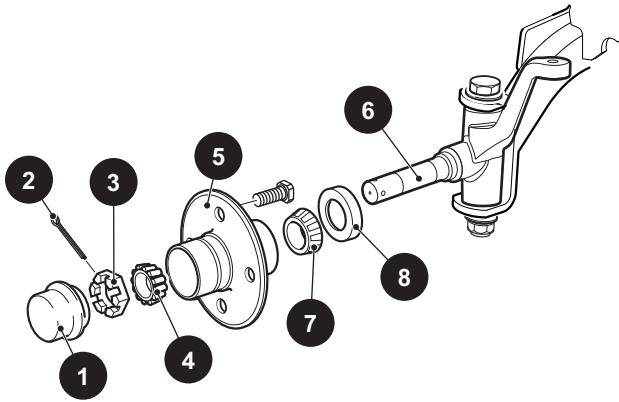

Figure 8 Hub Replacement
Remove the dust cap (1), cotter pin (2) and castellated nut (3) (Ref. Figure 8). While holding outer wheel bearing (4) in place, slide hub (5) from spindle (6) and discard.